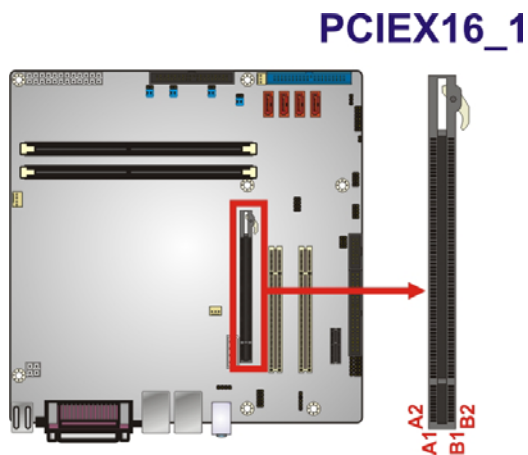

Figure 3-16: PCIe x16 Slot Location
- CN Location:** See Figure 3-16